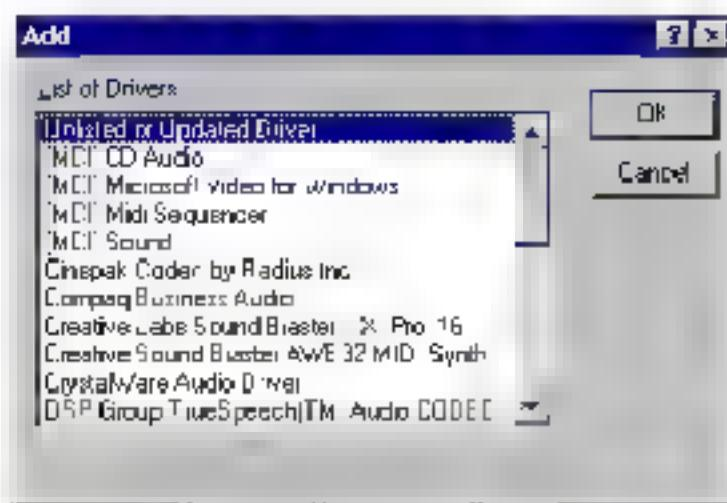

Figure 2.2 The Add window.
7) The Add window now appears. Highlight Unlisted or Updated Driver by clicking on it as shown in Figure 2.2 below. Click the OK button.